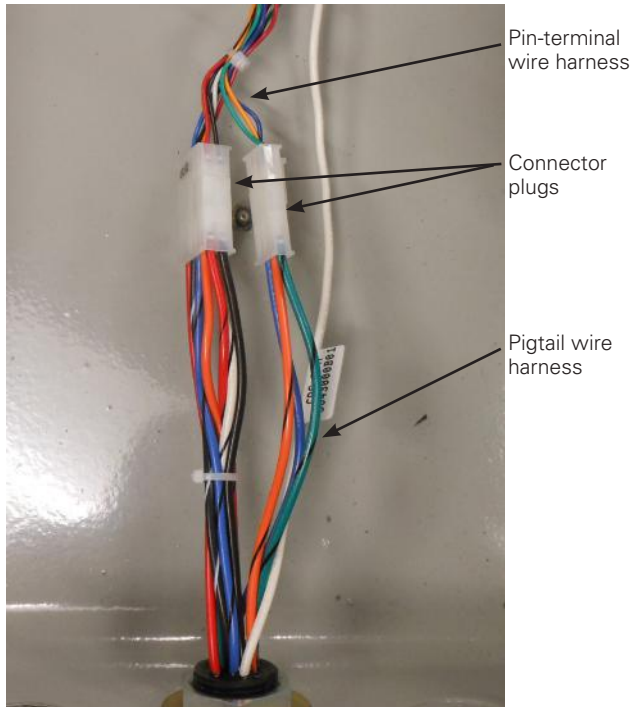

Figure 40. Connecting the QCA pin-terminal harness to the pigtail harness.
15. Link together the two connector plugs between the pigtail harness and the pin-terminal harness as shown in Figure 40.